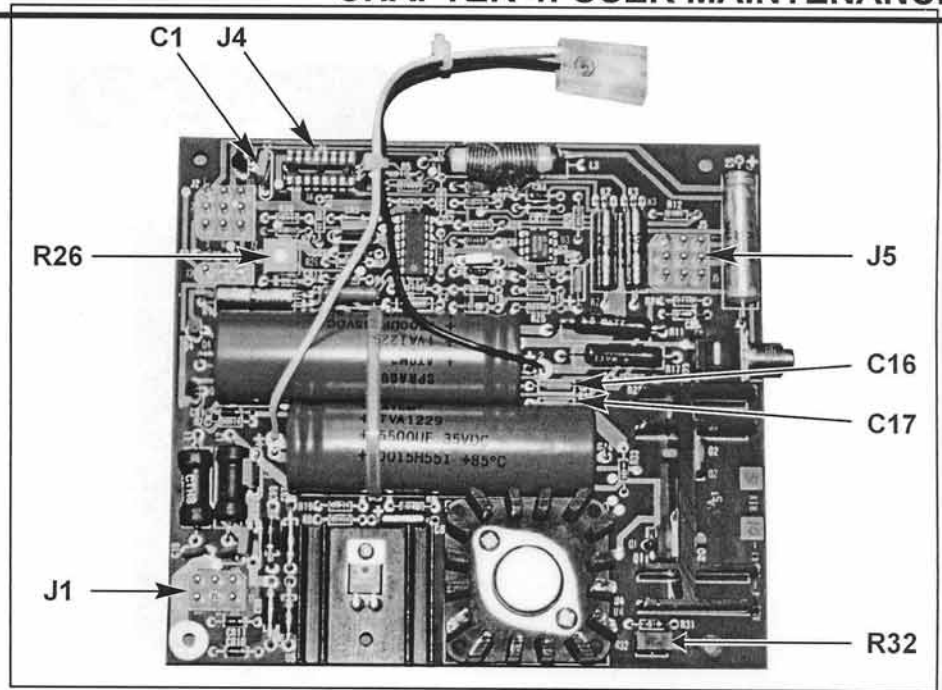

Figure 4-2. Servo PCB Assembly A3
1. On Servo PCB Assembly A3, unplug the flat cables from connectors J4 and J5. See figure 4-2.